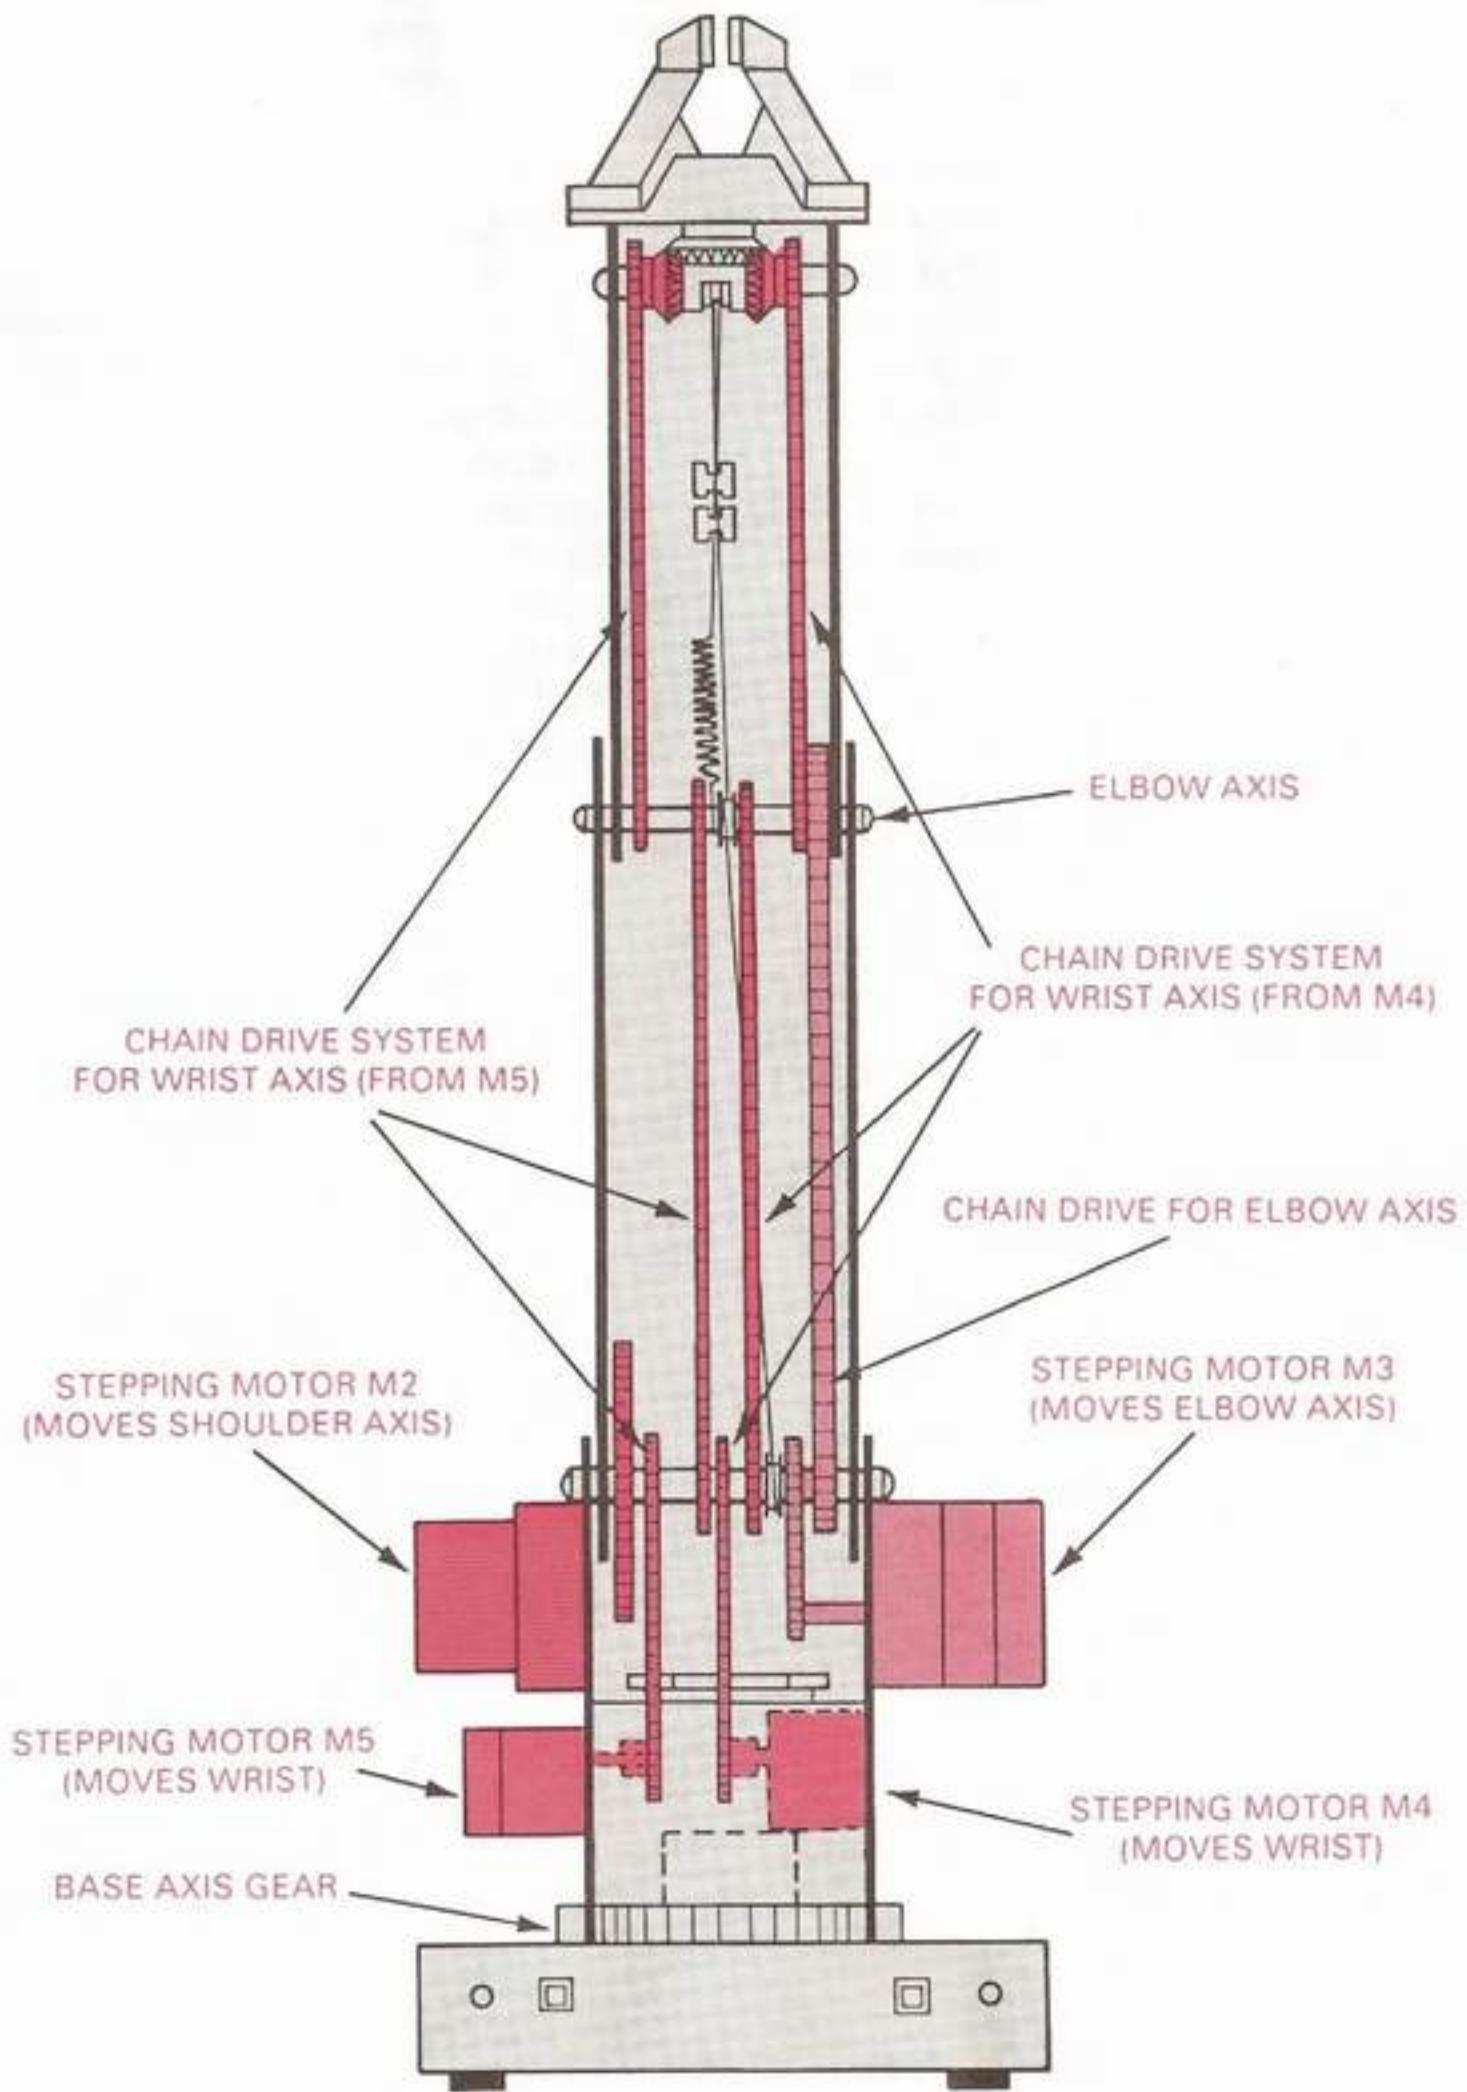

Fig. 18: The Pro-Arm's Motors, Gears, and Linkage
As you proceed through the following steps, refer to Fig. 18 to identify the various motors, gears, and linkage. Be sure to complete the blank boxes in Table 2.
- f. Observe that one of the **BASE** axis gears for **M1** is located on top of the base unit and may be seen from the front of the robot, as illustrated in Fig. 18. A small gear on the end of the motor shaft is driven against this large gear to provide body movement (arm swing). The small gear is well hidden within the body and cannot readily be seen.